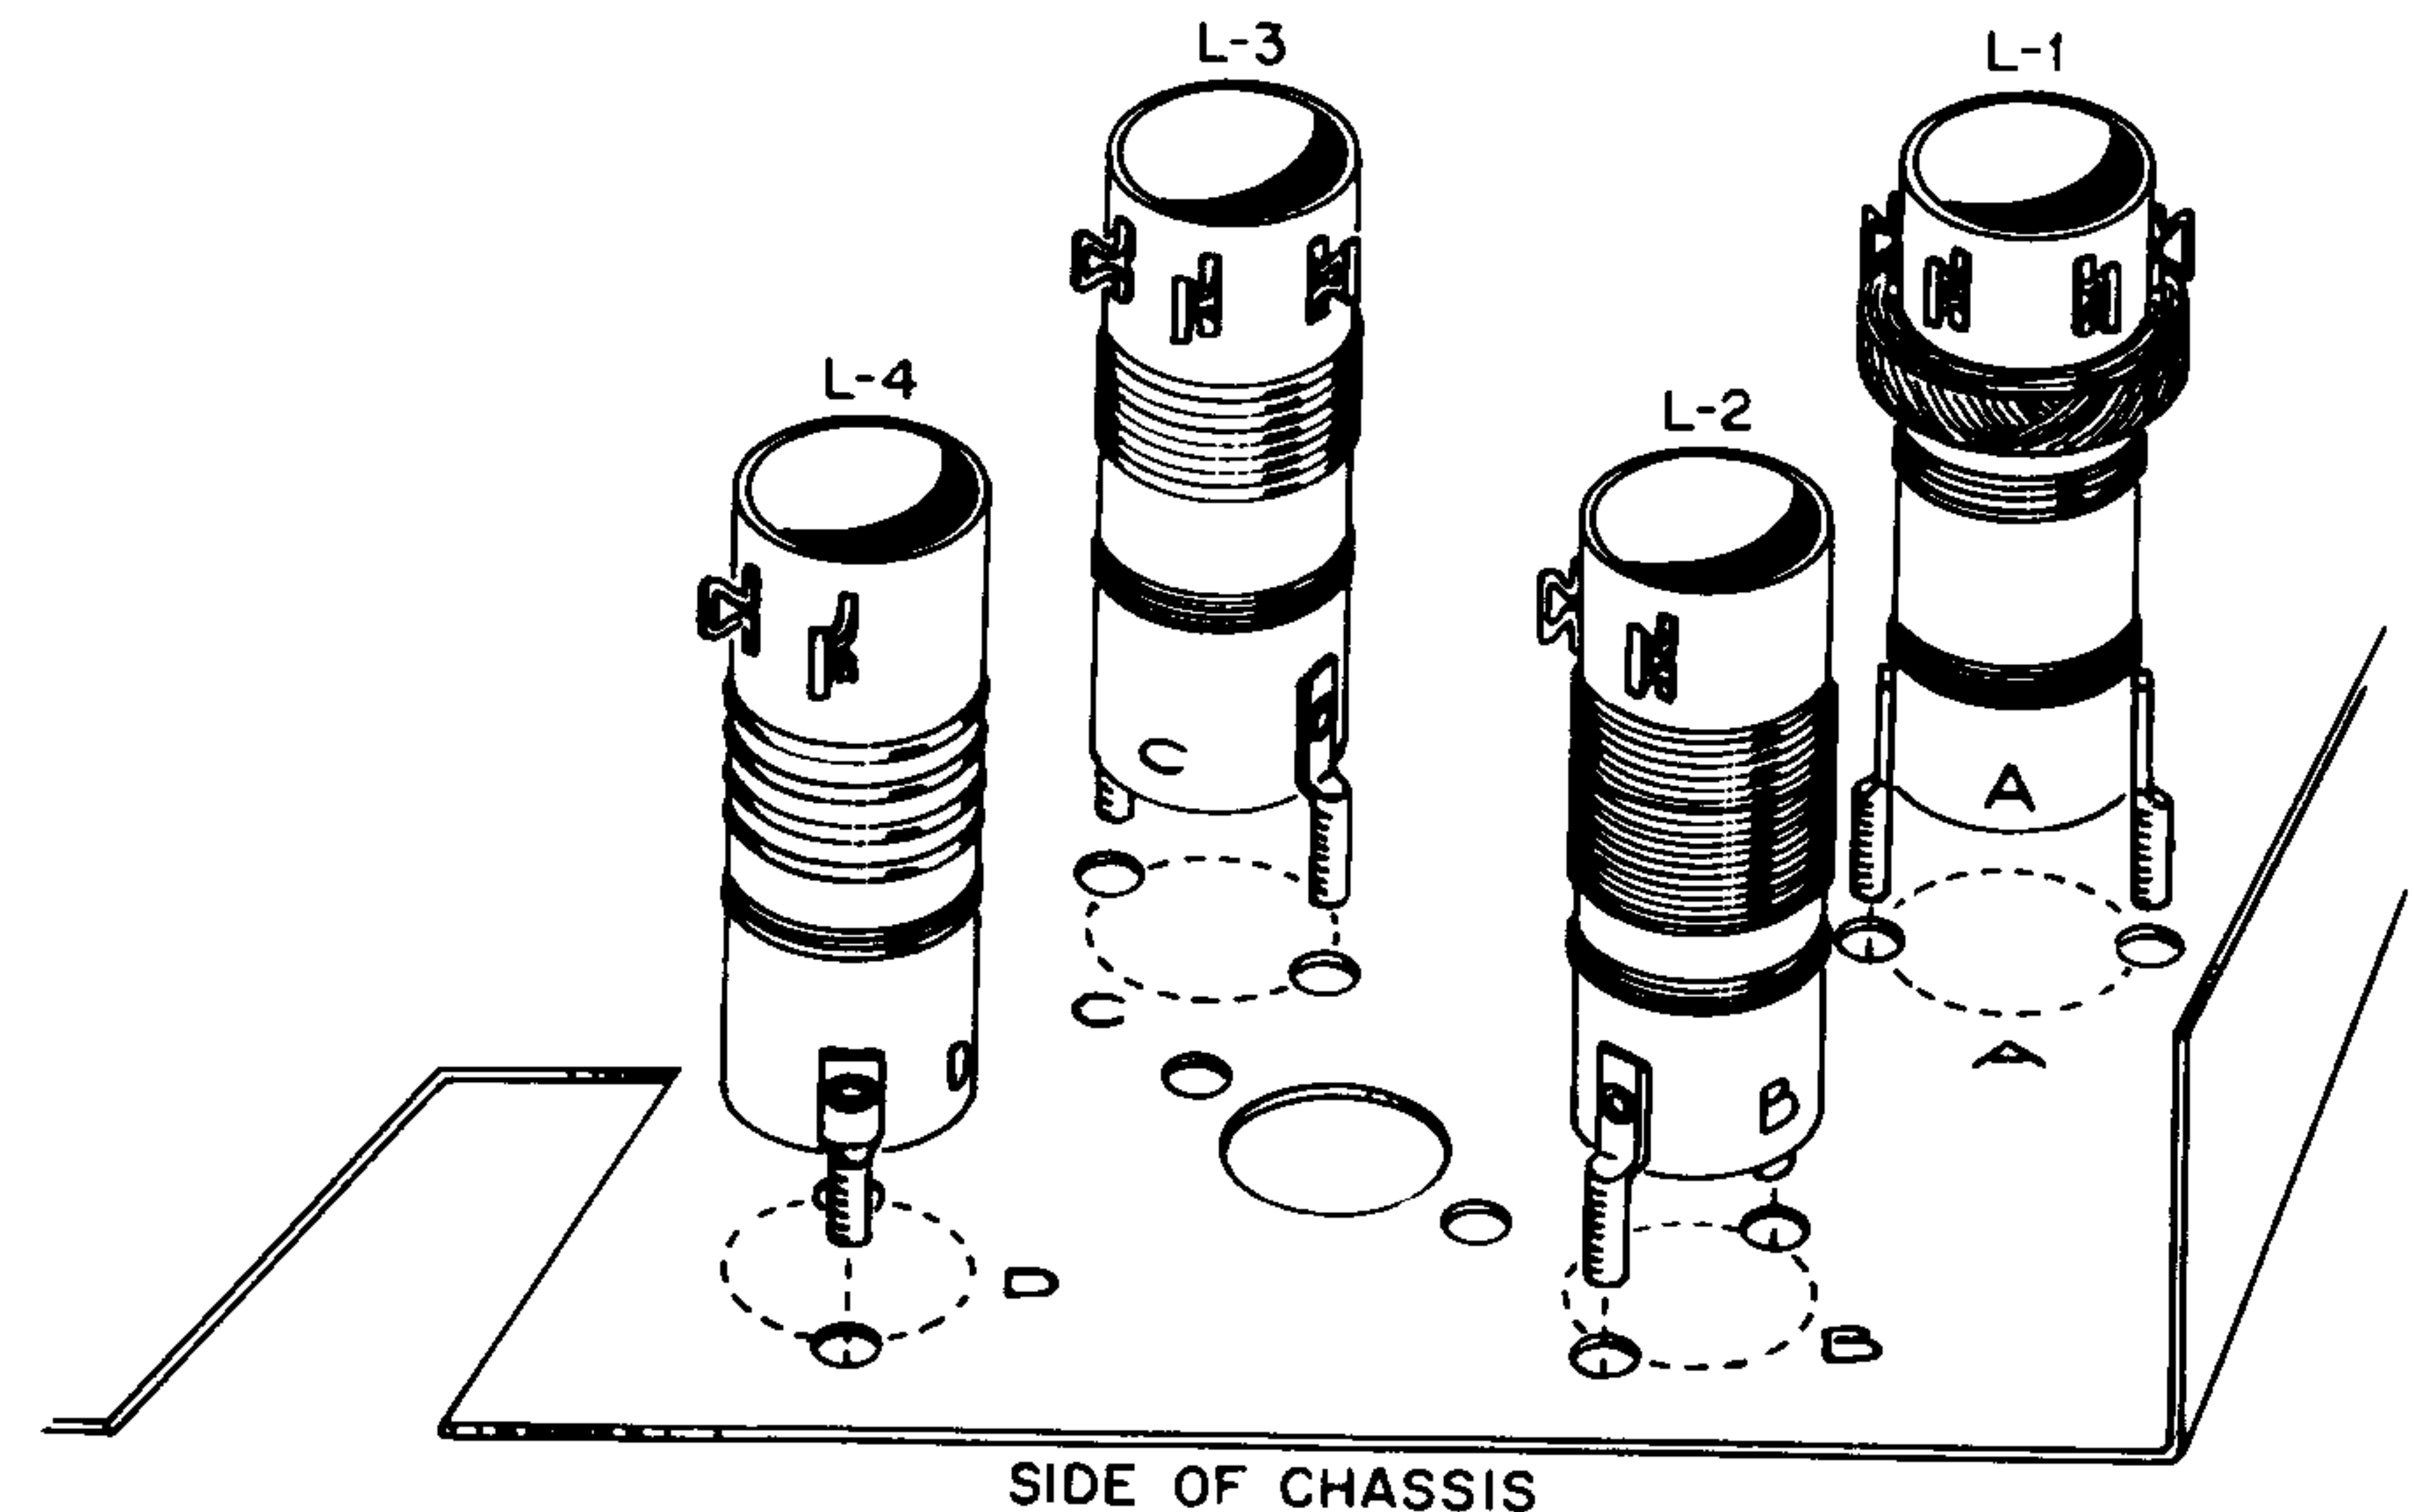

FIGURE 4. HOW TO MOUNT THE COILS
- ☐ Use matching nuts and lockwashers to mount the L-1, L-2, L-3 and L-4 coils, as shown in Figure 4. The letter stamped on the side of the coil must face the matching letter stamped on the chassis as shown. For example, L-1 should be mounted so the "A" on the coil faces the "A" on the chassis.